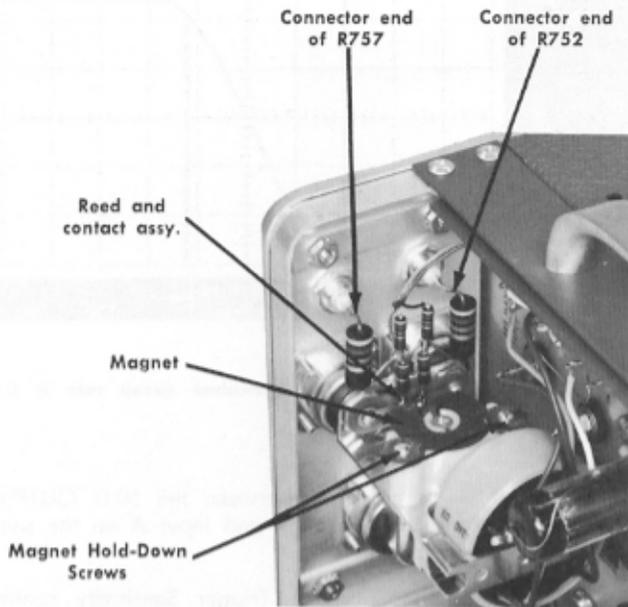

Fig. 6-7. Mercury pulser assembly. Test points for step 5h are shown also.
- (2) Loosen the magnet hold-down screws (see Fig. 6-7) and carefully move the magnet closer to or away from the reed and contact assembly. At the same time, shift the magnet slightly from side to side.
\*For this check, turn off the Type 109, connect a 12" jumper lead from the +10 V test point (see Fig. 6-3) to the connector end of R752 (see Fig. 6-7) and turn on the Type 109. Check waveform amplitude and duration. Then, repeat the check by connecting the jumper lead between the same +10 V test point and the connector end of R757 (see Fig. 6-7).